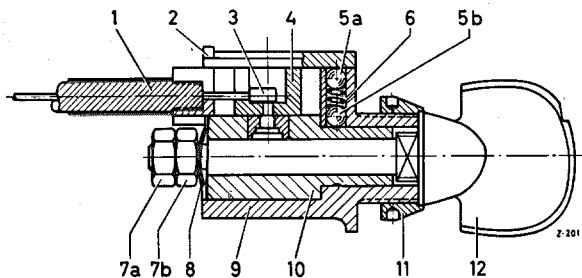

Fig. 30 — 8/1
1. Loosen the clamping chuck (2) of the cable at the distributor bearing by turning the hexagon nut (1) and pull the clamping chuck out (see Figs. 30 — 8/2 and 30 — 8/3).
3. Unscrew the two hexagon nuts (7a) and (7b) of the control knob (12) at the rear of the ignition control and remove them together with the lock washer (8). Then pull off the control knob (12) (Fig. 30 — 8/1).